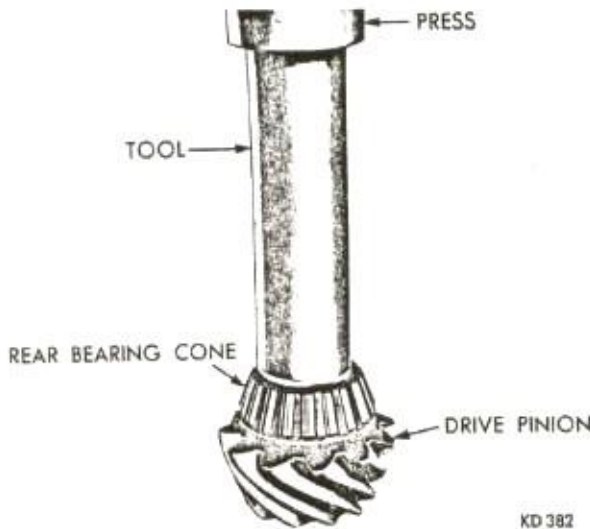

Fig. 12—Installing Rear Pinion Bearing Cone
(10) Install rear drive pinion bearing cup and shim pack in carrier. The starting shim pack to be placed between the rear cup and carrier can be determined from the shims removed and the etched marking on the pinion. The + or - figure indicates the variation from the nominal distance between the front of the pinion and the center line of the carrier. For example, if a pinion marked +2 was originally installed with a shim pack .035 inch and the new pinion is marked -1, the shim pack should be increased .003 inch to bring the new pinion to its correct position and the new shim pack would be .038 inch. This will give an approximate setting of the pinion. A pinion depth gauge should be used for final setting of the pinion, see steps 15 through 23. Shims are available in .003, .005 and .010 inch thickness.
(11) Install front pinion bearing cup in carrier.
(12) Lubricate rear drive pinion bearing cone with Sure-Grip Lubricant, Part Number 2585318, or equivalent, and install bearing cone on pinion stem with Tool DD-955 (Fig. 12).